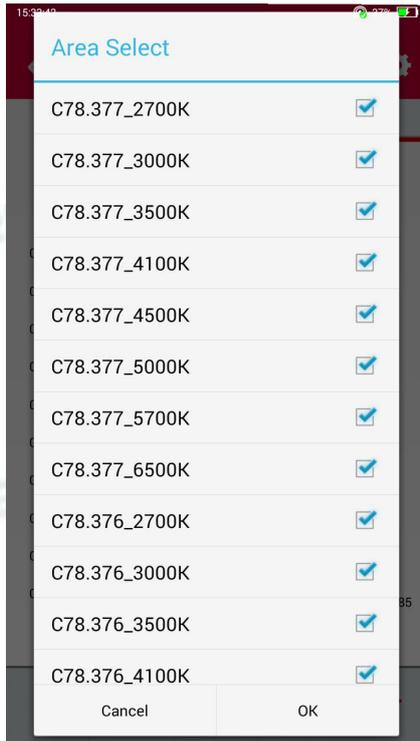

Fig 4.11 Area select interface
- **Area Select:** In the interface of Fig 4.5, click “Area Select” to enter interference in Fig 4.11, user can tick before the name of the designated area.